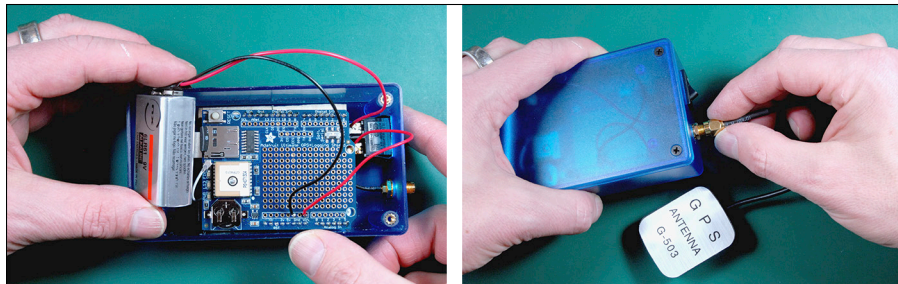

Figure 13-19:
9. Make sure your power switch is turned off and attach your battery, as shown in Figure 13-19.